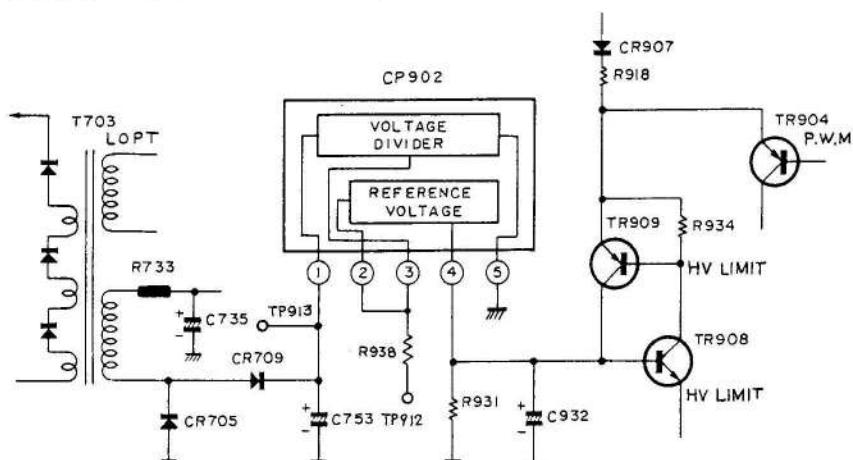

Fig. 4 HV (EHT) limit circuit
Fig. 4 shows this circuit, adopted in NP6C chassis. Rectified peak voltage from the LT 1 winding of the LOPT is fed to internal voltage divider of CP902 (between terminals ① and ⑤).
- 1) Connect between TP-912 and TP-913 with a short link. — Fig. 4